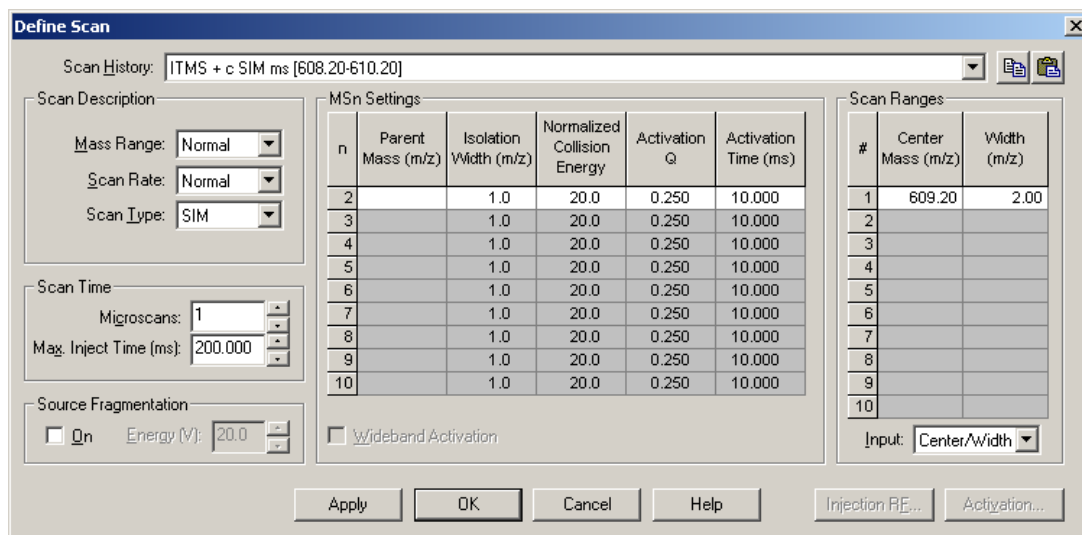

Figure 8-3. Define Scan dialog box, showing typical settings for acquiring data in the SIM scan mode
- a. Click on the Define Scan button to open the Define Scan dialog box. Figure 8-3
- b. Ensure that the values in your dialog box are the same as those in Figure 8-3. Then, click on **OK**.